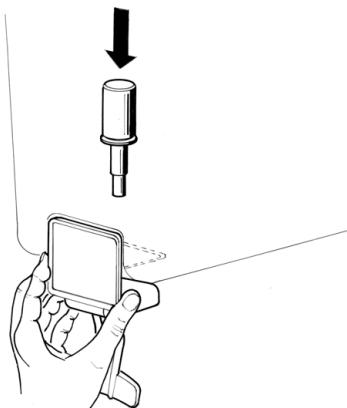

figure 7
- 3 **Gravity faucet:** install the faucet handle and the piston with its gasket (see figure 7).